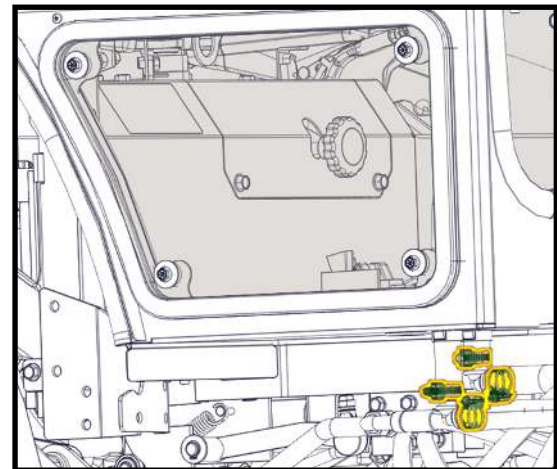

Figure 19.13 Connect Elbow Fittings
- 19.13 With hoses properly routed so there are no kinks, cut to the appropriate length and connect to the elbows under the right floorboard using hose clamps. See Figure 19.13. Note: the elbows can be rotated to achieve ideal routing.